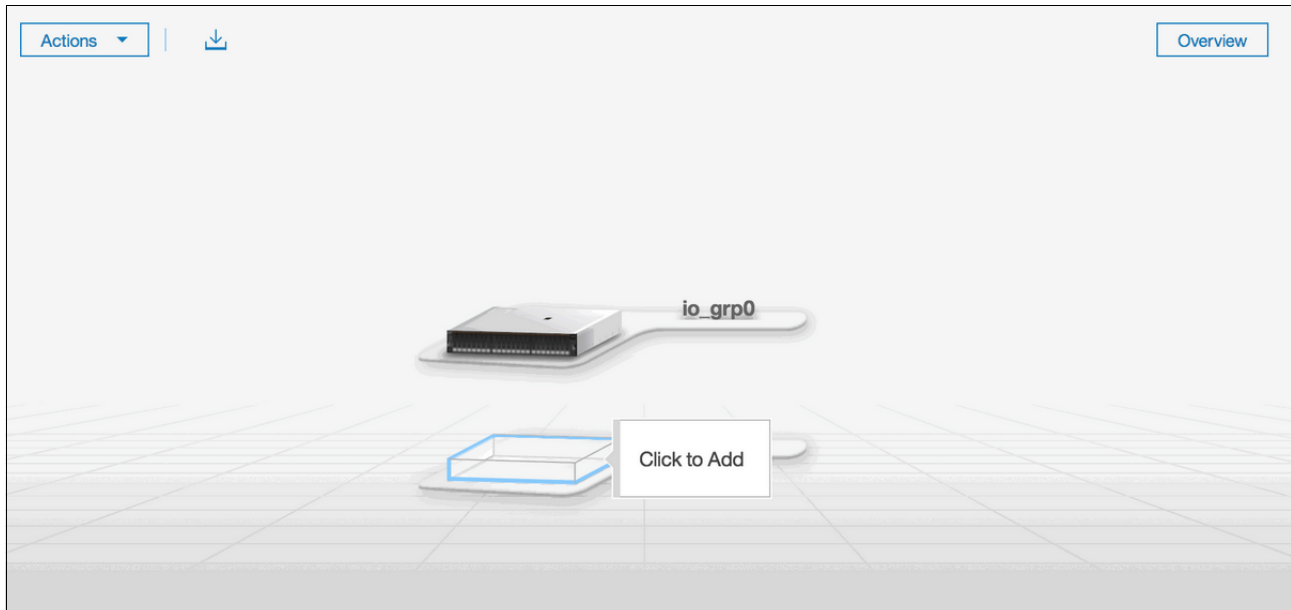

Figure 2-41 Option to add a control enclosure
1. In the main window, click **Actions** in the upper-left corner and select **Add Enclosures**. Alternatively, you can click the available control enclosure, as shown in Figure 2-41.